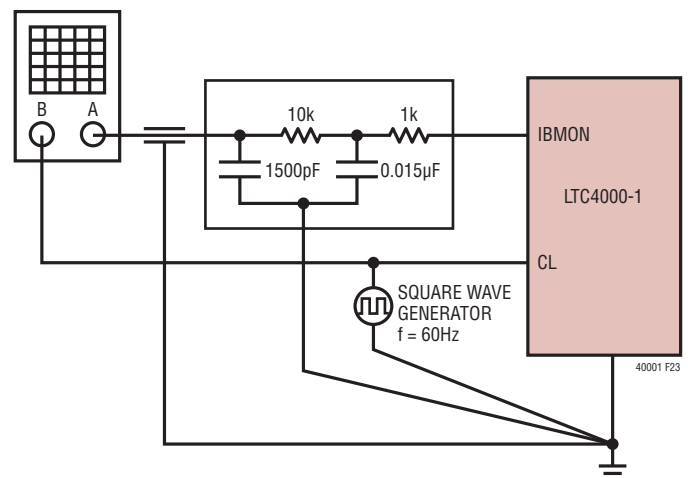

Figure 23. Charge Current Regulation Loop Compensation Setup
- For compensation, the procedure described in the empirical loop compensation section is followed. As recommended, first a $1\mu\text{F}$ C_C and 10k R_C is used, which sets all the loops to be stable. For an example of typical transient responses, the charge current regulation loop when V_{OFB} is regulated to $V_{\text{OUT(INST_ON)}}$ is used here. Figure 23 shows the recommended setup to inject a DC-coupled charge current variation into this particular loop. The input to the CL pin is a square wave at 70Hz with the low level set at 120mV and the high level set at 130mV, corresponding to a 1.2A and 1.3A charge current (100mA charge current step). Therefore, in this particular example the trickle charge current regulation stability is examined. Note that the nominal trickle charge current in this example is programmed at 1.25A ($R_{\text{CL}} = 24.9\text{k}\Omega$).